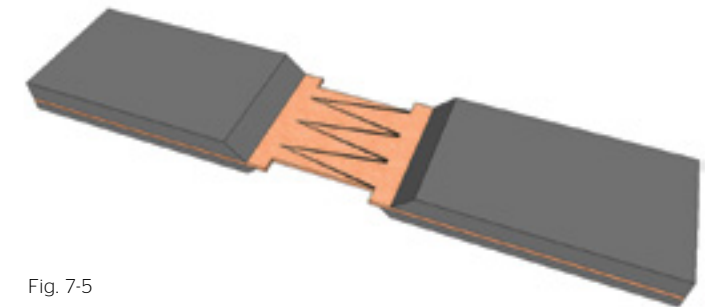

Fig. 7-5
16. Dry fit the belt ends. Proper fit includes a gap approximately 1/8 in. to 1/4 in. (3mm to 6mm) wide between each finger and belt ends are aligned. Refer to Fig. 7-5.